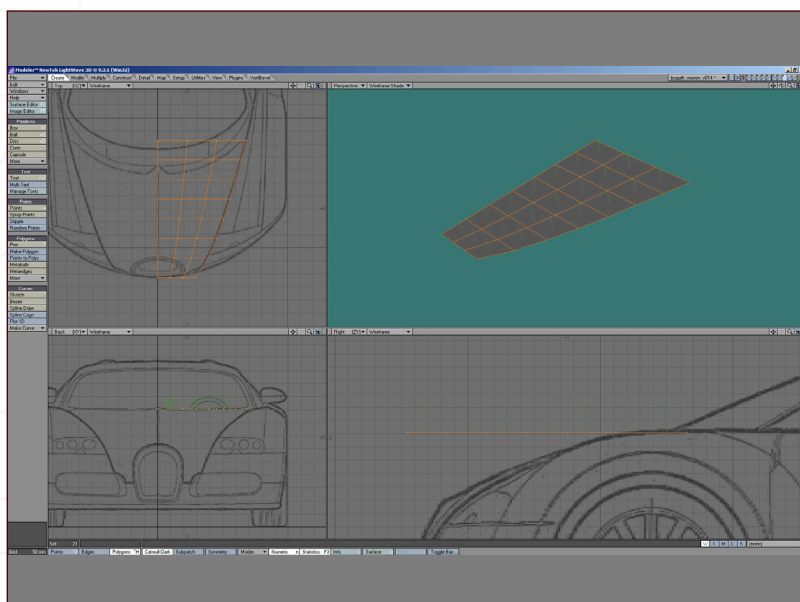

Fig 41
41. Using the scale tool in mouse centred mode, select and scale each band of points to match the tapered shape of the Veyron's bonnet. There is an opening required for the distinctive grill opening, but we will add that in once the main shape of the bonnet is in place (Fig41).